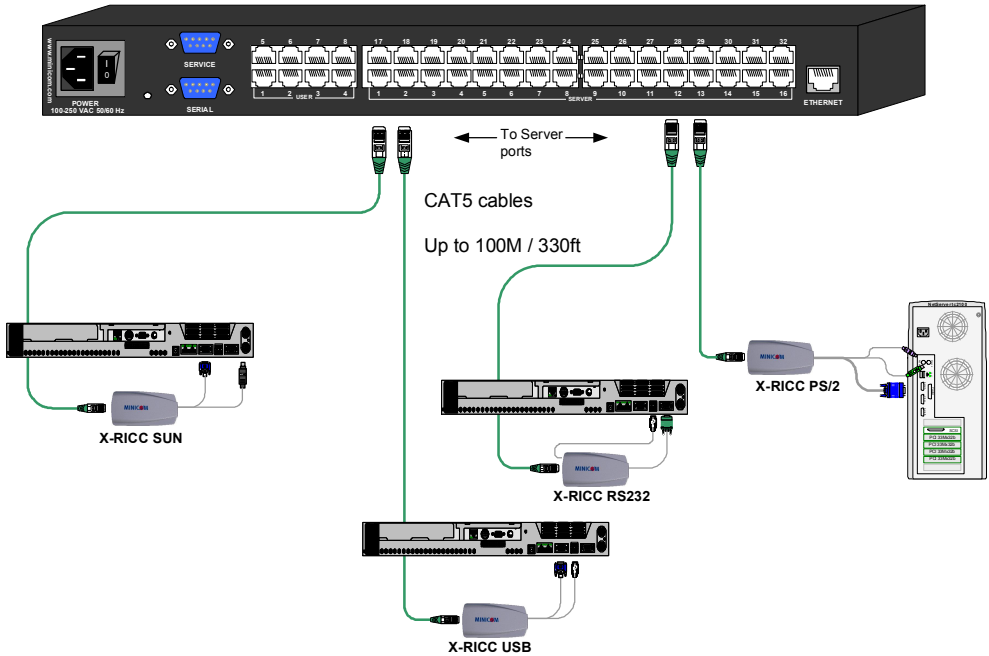

Figure 10 DX system connections
Figure 10 illustrates the different types of XRICCs connected to the DX Central. How to connect the different XRICCs follows in detail below.
1. Connect one connector to the XRICCs RJ45 port – see Figure 10.